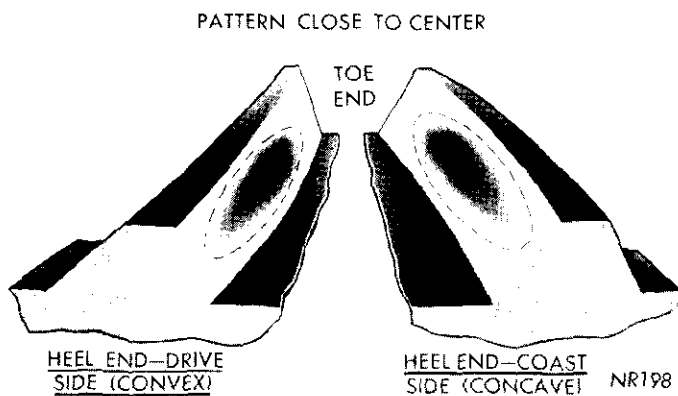

Fig. 25—Desired Tooth Contact Pattern Under Light Load
(18) Observe the contact pattern on the drive gear teeth and compare with those in (Fig. 25) to determine if pattern is properly located. If pinion depth of mesh and gear backlash are correct, the heaviest most distinct part of contact pattern should be centered on both drive and coast sides of the drive gear teeth.